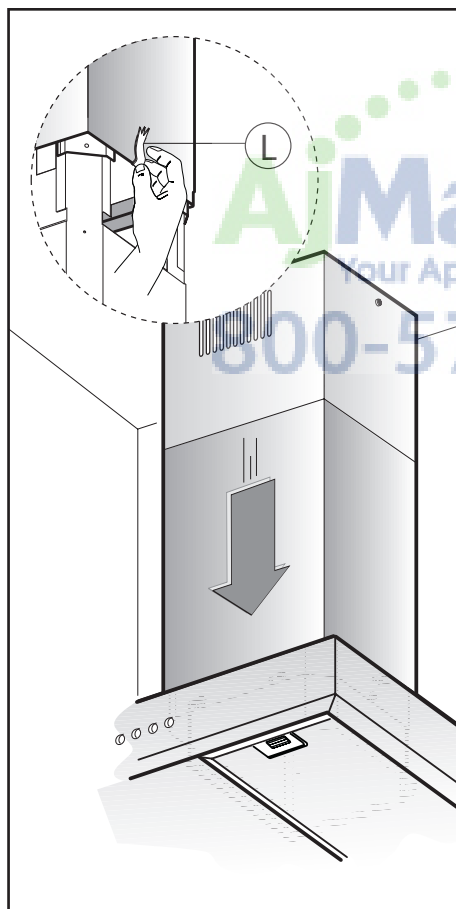

Fig.11
- Remove adhesive tape **L** and rest the lower chimney piece above the cooker hood **(Fig.11)**.